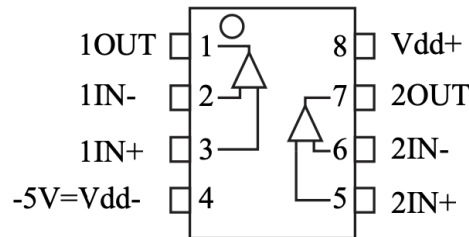

Figure 5.4: Pinout for TI's TLV272. Note that two op amps are contained, often called a dual op amp, within a single chip.
A pinout is a connection diagram for an integrated circuit, showing how its pins connect to the internal op amp terminals. It should not be confused with the pins in a spice simulation. Op amps typically have a standardized pinout, allowing chips to be easily swapped out. Figure 5.4 shows the pinout for the TLV272 with the op amp diagram drawn within.
3. Familiarize yourself with the TLV272 datasheet. Make note that pin 4 should be connected to -5 V, NOT ground. It is also recommended to use the schematic in Figure 5.4 rather than the schematic in the datasheet to avoid confusion when constructing your physical circuits.